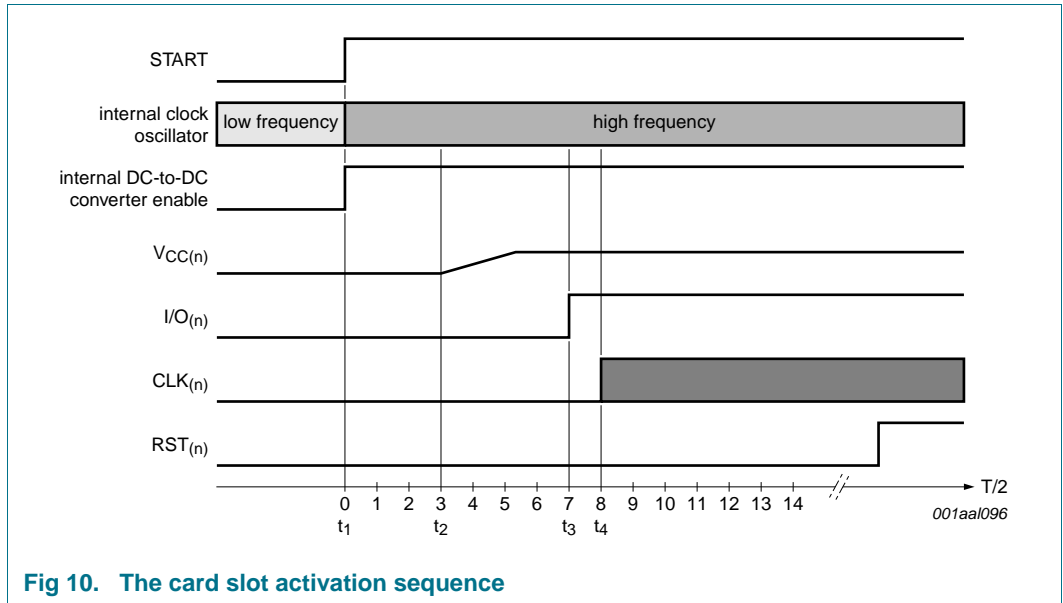

Fig 10. The card slot activation sequence
- The internal oscillator switches to its high frequency (t_0 , see Figure 10).
In Figure 10 only one card slot is activated. If another card slot is active, the DC-to-DC converter remains active.